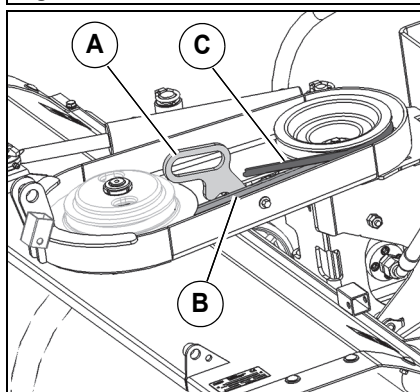

Fig. 176:
The brush speed of the front sweeping machine can be adapted to the working conditions with the two-stage belt drive. The V-belt can be loosened by moving the handle **Fig. 176-A** so that it can be placed effortlessly in another stage. The speed can be further adapted with the switch for the fixed engine speed, see page 168.
- Summer operation: Stage **Fig. 176-B** (low speed)
- Winter operation: Stage **Fig. 176-C** (high speed)